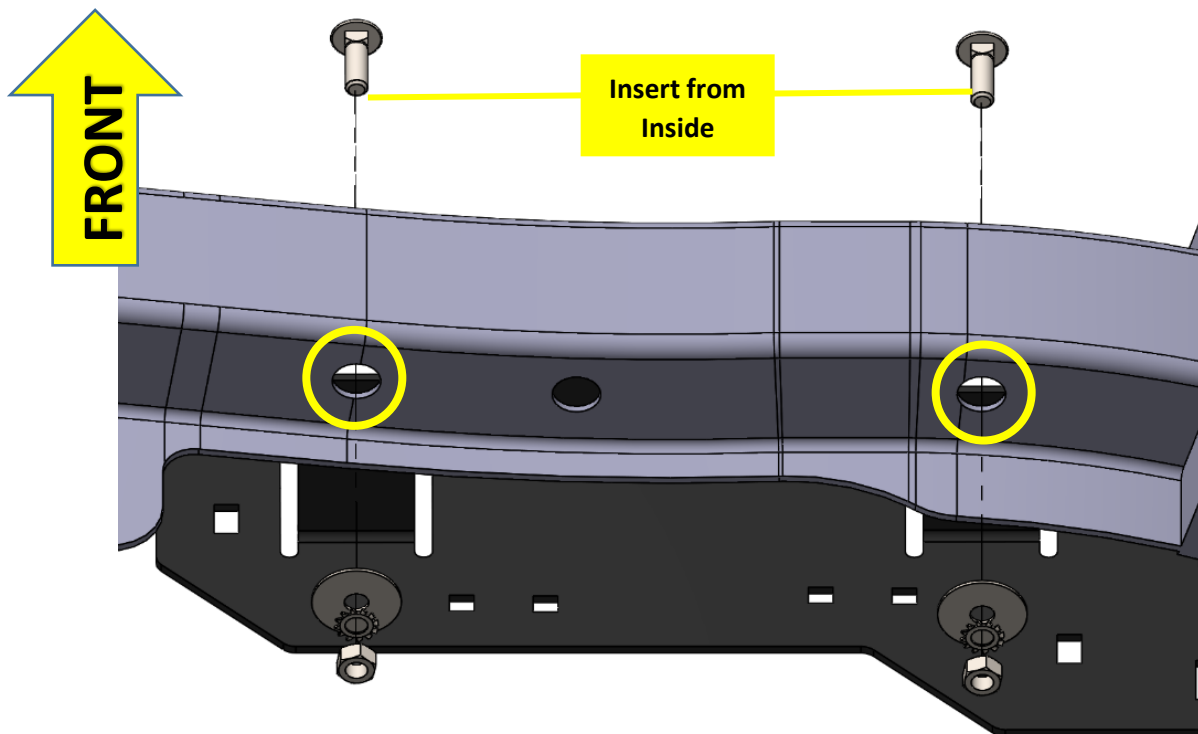

Figure 13 - TUNDRA-301 Mounting to Crossmember with Hardware; Exploded View
9.2.2 Lift TUNDRA-301 (Horn bracket) inside crossmember (there may be slight interference) and bolt through inside of crossmember using hardware #6, #7, #8, & #9, as shown circled in Figure 13 below. Hand tighten.